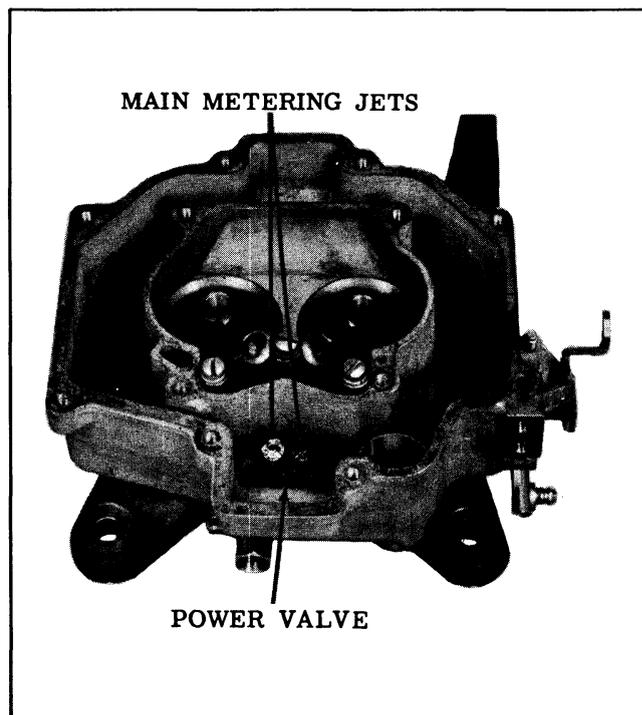

Fig. 8-131 Power Valve
2. Install power valve and gasket. (See Fig. 8-131)